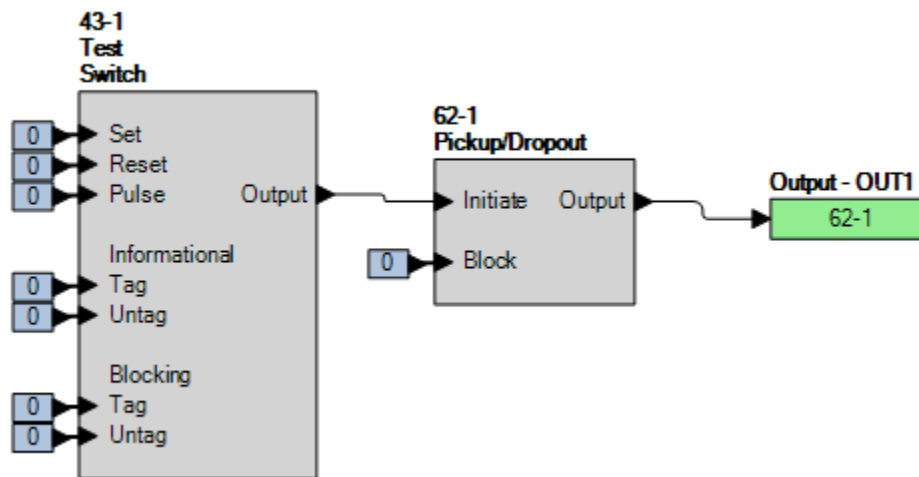

Figure 73-1. BESTlogicPlus Settings
Step 2: Use BESTCOMSP $\iota$  to configure the BESTlogicPlus programmable logic shown in Figure 73-1.
Step 1: Use BESTCOMSPi.us to send the operational settings in Table 73-2 to the BE1-11t. Retain the logic settings from Figure 73-1.
Step 1: Use BESTCOM*Plus* to send the operational settings in Table 73-4 to the BE1-11*t*. Retain the logic settings from Figure 73-1.
Step 1: Use *BESTCOMSPi* to send the operational settings in Table 73-5 to the BE1-11 $\iota$ . Retain the logic settings from Figure 73-1.